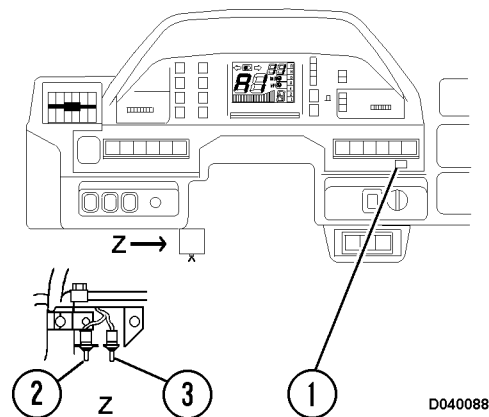

FIGURE 4-55. MODE SWITCHES
2. This function is effected by operating bulb check switch (1, Figure 4-55) and mode change switches (2) (the red switch at the front of the truck and (3) (the black switch at the rear of the machine) and using the S-NET to send the command from the monitor panel to each controller to delete the data from memory.